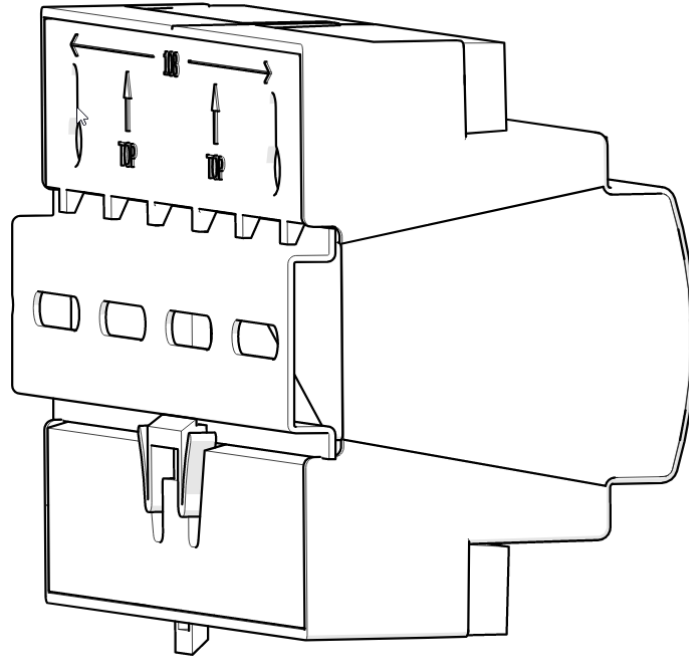

Figure 8. Lock the XM-AI2-AO2 unit on the DIN rail
4. Release the retention clip to lock the unit on the DIN rail. Refer Figure 8.